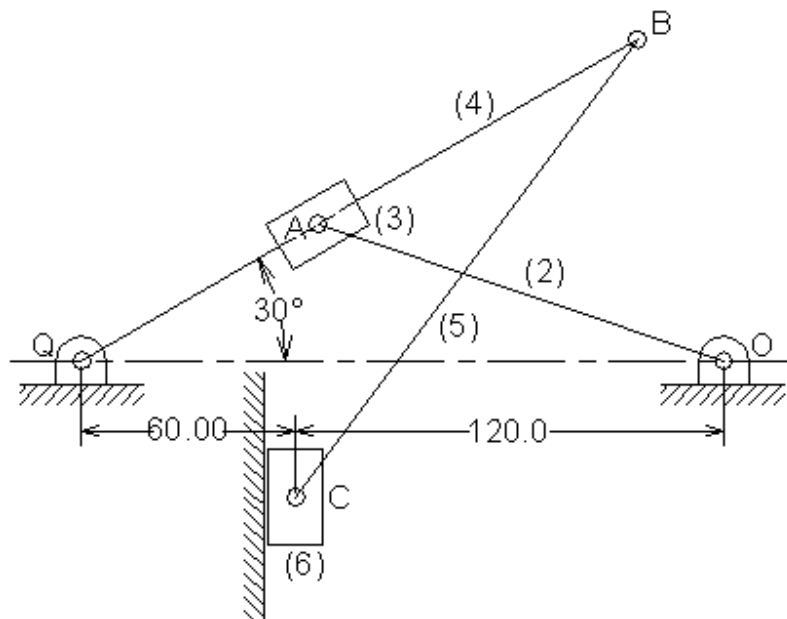

Figure P2.32
2.32 Link (4), Figure P2.32 is rotating at 30 rad/s, counter clockwise. Determine the velocity and the acceleration of point C, and the angular velocity and the angular acceleration of link (2).